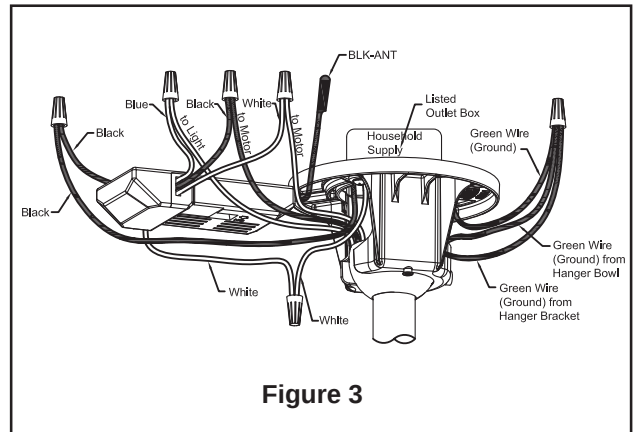

Figure 3
2. Connect green wires from hanger bracket and hanger ball to bare (ground) wire using wire connector supplied. Connect black wire from receiver unit marked "AC IN L" to black supply wire using wire connector supplied. Connect white wire from receiver unit marked "AC IN N" to white supply wire using wire connector supplied. Connect white wire from receiver unit marked "TO MOTOR N" to white wire from fan using wire connector supplied with receiver. Connect black wire from receiver unit marked "TO MOTOR L" to black wire from fan using wire connector supplied. Lastly, connect blue wire from receiver to the blue fan light wire using wire connector supplied. Position all connected wires and receiver antenna to allow installation of ceiling canopy (Figure 3).